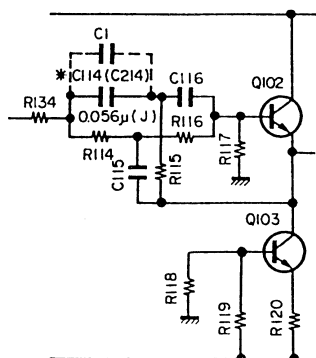

Fig. 6.3.8
- a) Add capacitor C1 0.015 μ F in parallel to C114 (C214) on the Playback Amp. & Dolby NR P.C.B. Ass'y as shown in Fig. 6.3.8. This will compensate approx. 0.2 dB.